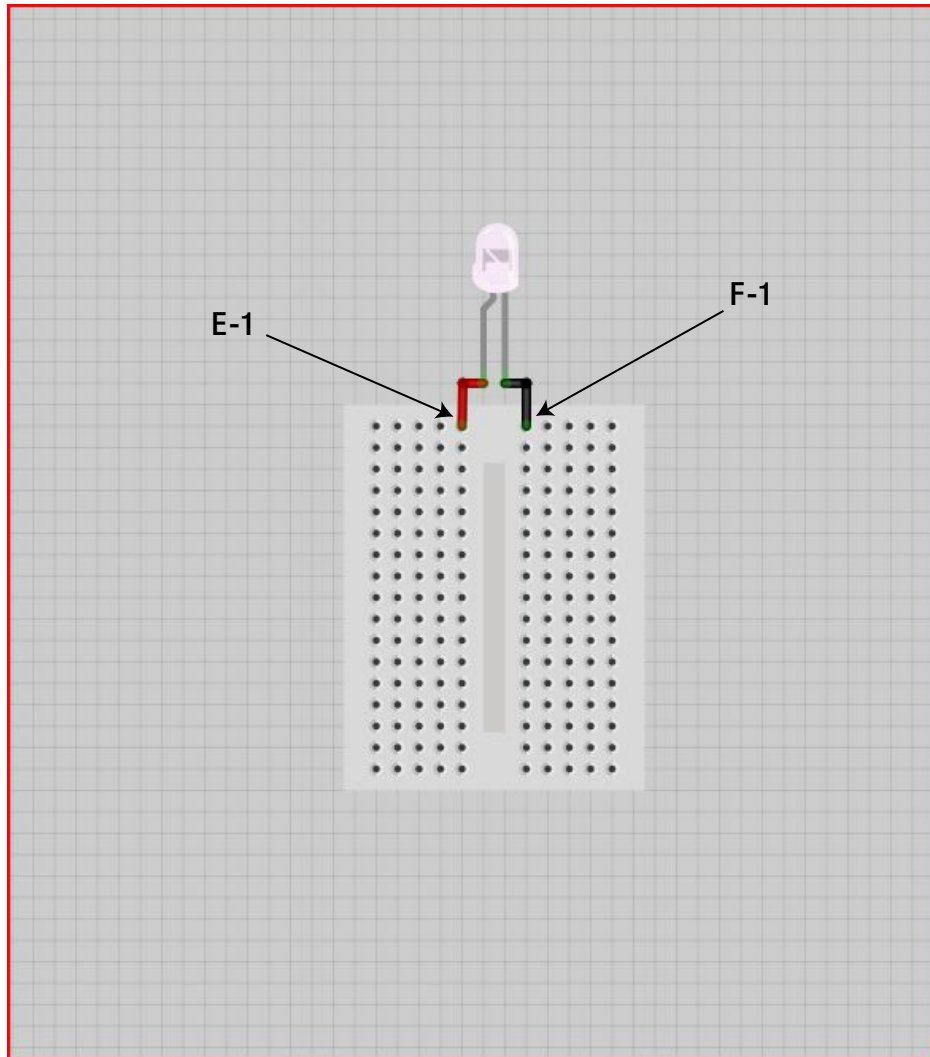

Figure 7-5. Attach the LED to the solderless breadboard
2. Connect the LED to the small solderless breadboard, as shown in Figure 7-5. Place the longer, positive leg into E-1. Place the shorter, negative leg into F-1.